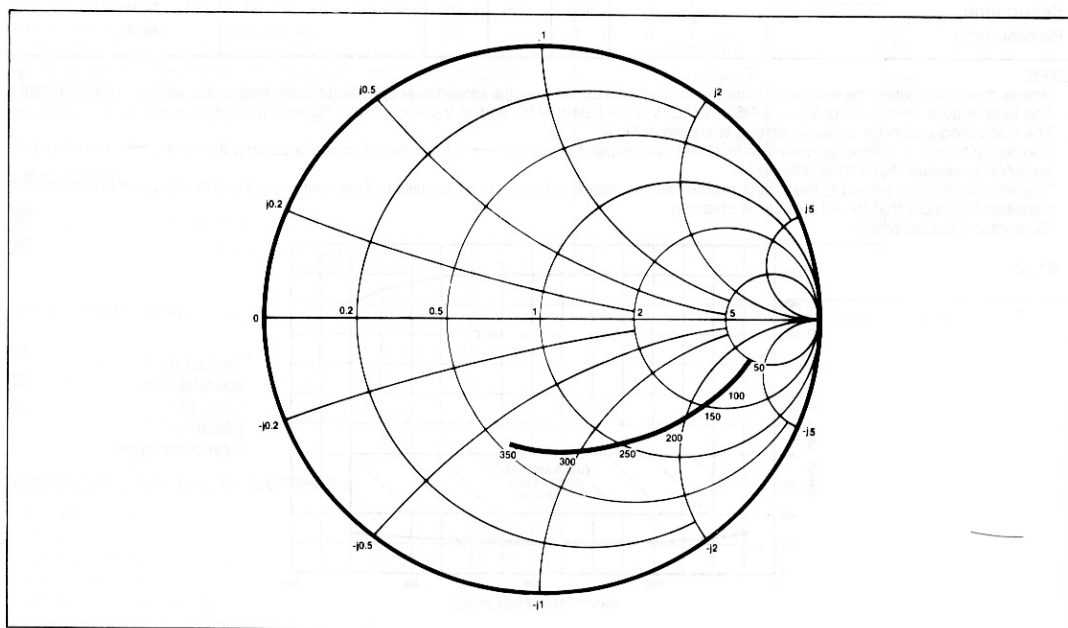

Fig.5 Typical input impedance. Test conditions: supply voltage $-5.2V$, ambient temperature $25^{\circ}C$, frequencies in MHz, impedances normalised to 50 ohms.
4. Input impedance is a function of frequency. See Fig. 5.